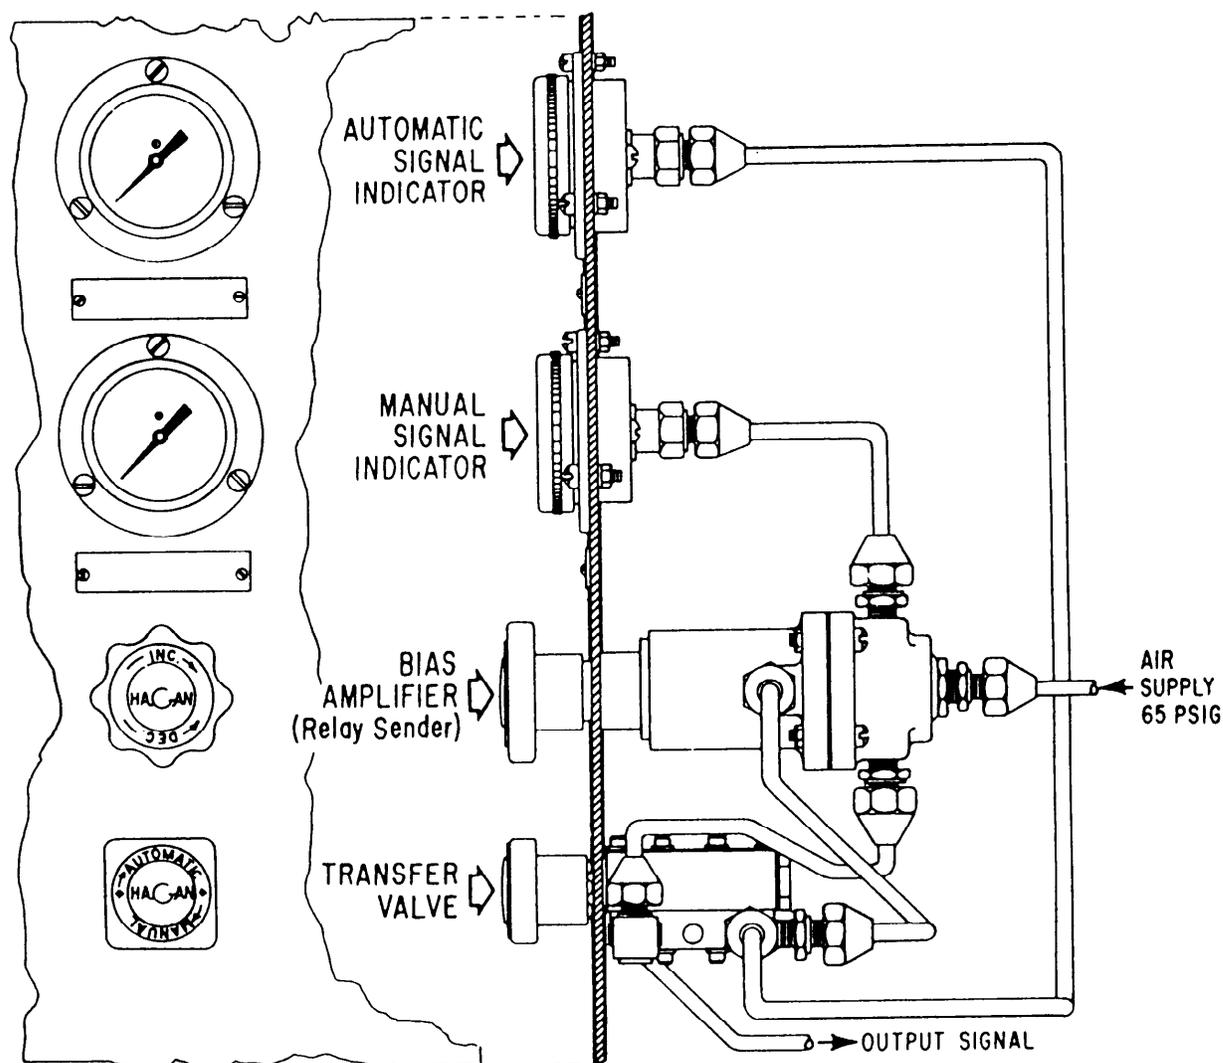

Figure 17-14.—Boiler four-way A/M station.
This component is used to select the mode of operation, either manual or automatic. When it is set for manual operation, the master demand signal is dead-ended and the manually generated signal is sent out to the rest of the system to control air and oil flow. When it is set for automatic operation, the master demand signal passes through the transfer section to the relay sender (hand generator), there the signal is transmitted through diaphragms and springs to the poppet valve. The output of the poppet valve is then sent back through the transfer station out to the combustion system. In the relay sender, bias can be added when the system is in automatic to compensate for small pressure differences between boilers. (A four-way A/M station is shown in fig.17-14.)
**FORCED DRAFT BLOWER A/M STATIONS (FOUR-WAY).**—The same information applies as that listed for the boiler master four-way station (fig. 17-14), except bias is used to parallel forced draft blowers.